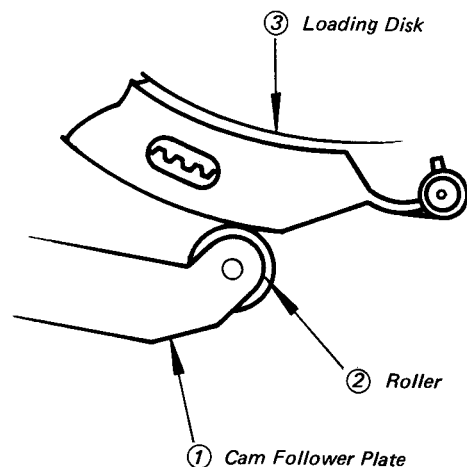

Fig. 5-36 Loading Disk Turning for Removal of Band Brake
10-3. Replacing the Supply Reel Table (Figs. 5-36 –39)
2. Turn the loading drive assembly from the loading start position by hand until the roller ② rides fully on the cam way on the loading disk ③ (see Fig. 5-36).